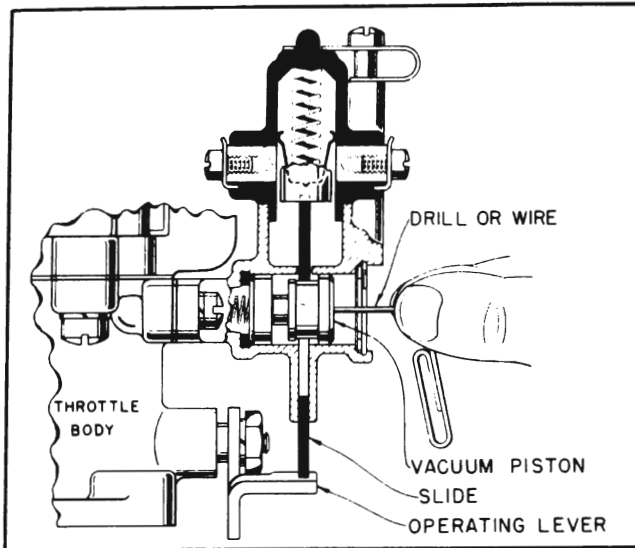

Figure 10-38—Pushing Vacuum Piston to Inner Position
2. With engine not running, insert No. 65 drill or wire (small size paper clip) through center of screen to operate vacuum piston. **DO NOT REMOVE SCREEN.** See figure 10-38.
3. With throttle closed, first push vacuum piston to its inner position and hold it there while opening throttle. This will allow slide to drop into the shallow groove in the piston and will lock it in the inner position and prevent slide from dropping far enough to complete contact. See figure 10-38. Hold throttle open to prevent release of piston until completion of Steps 4 and 5. Remove drill or wire.